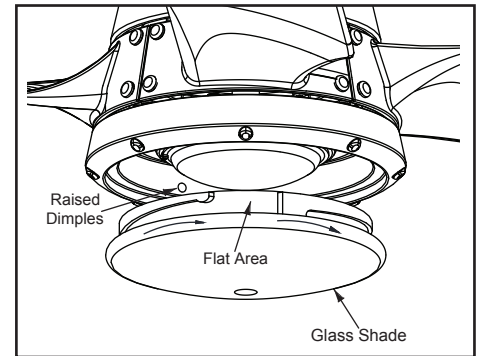

Figure 17
5. Place the glass shade into the light kit pan, aligning the three flat areas on the top of the glass shade with the three raised dimples in the light kit pan. Turn the glass shade clockwise until it stops. (Figure 17)